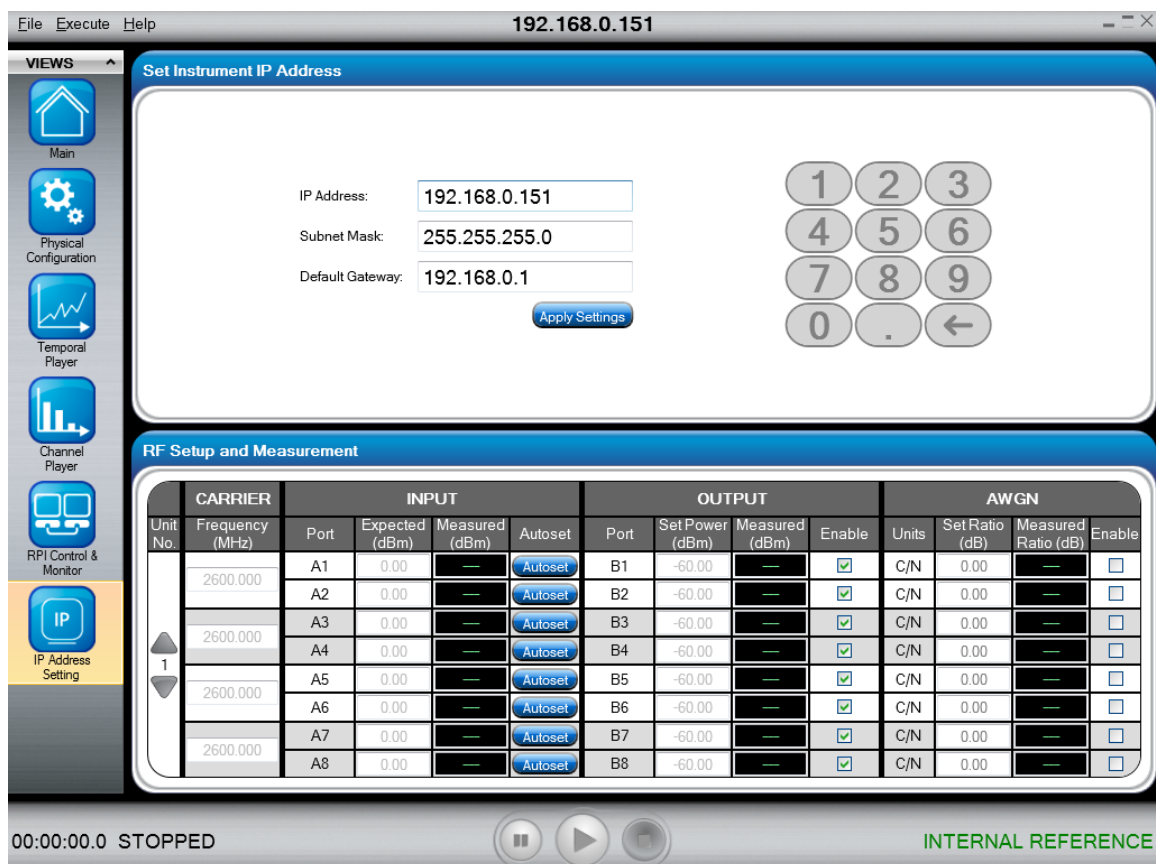

Figure 3-3: IP Address Setting Window
The *IP Address Setting* window displays, as shown in Figure 3-3.
4. Ensure that the *Subnet Mask* and *Default Gateway* settings are configured as shown in Figure 3-3.